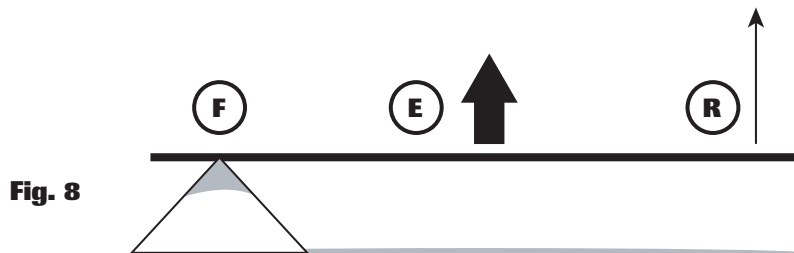

Fig. 8
- (b) The effort and load move in the same direction. (Fig. 8.) For example, when you swing a baseball bat, a tennis racquet, or a golf club forward to hit ball, the ball moves forward too.